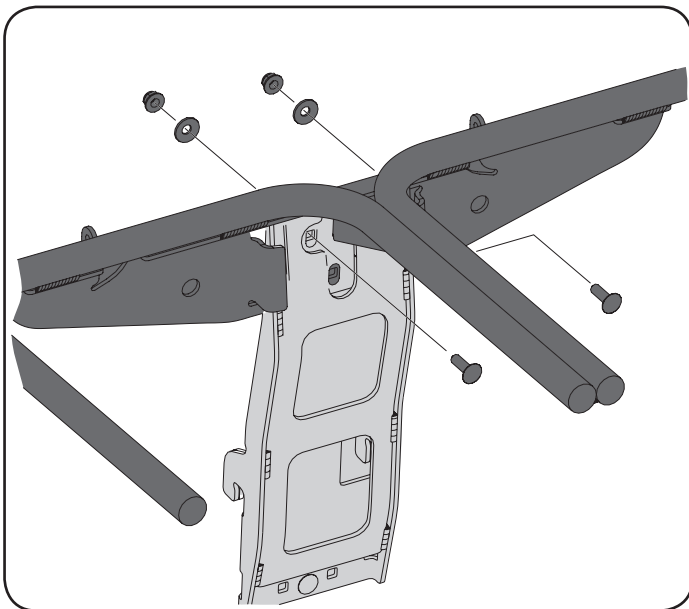

Figure 12
4. Install the hanger assembly onto the upright support bracket using two carriage bolts (710-0276), two washers (736-0242), and two nuts (712-04063). See Figure 12.